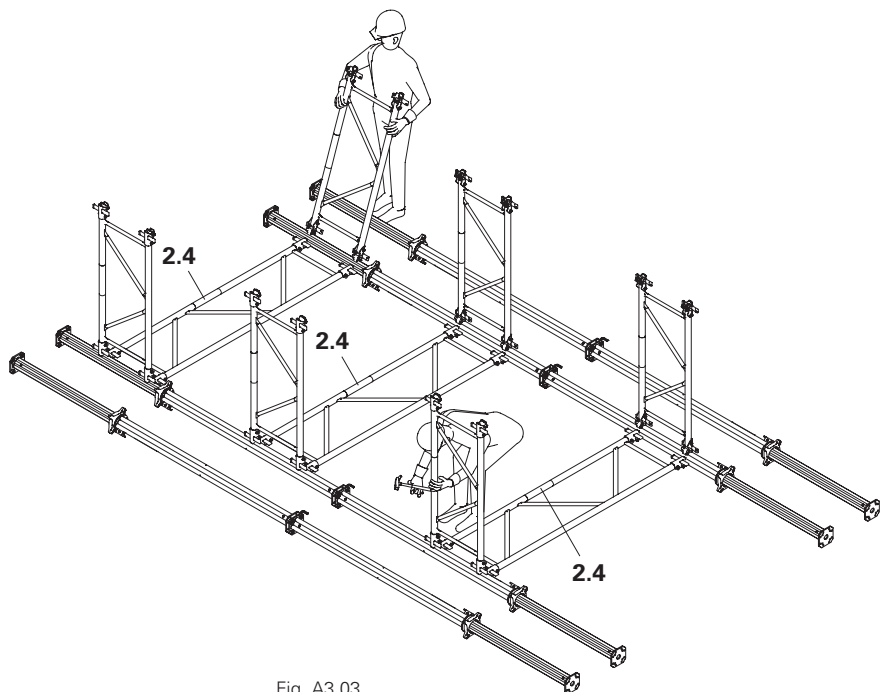

Fig. A3.03
3. Mount the lateral Frame MP MRK (2). (Fig. A3.03)